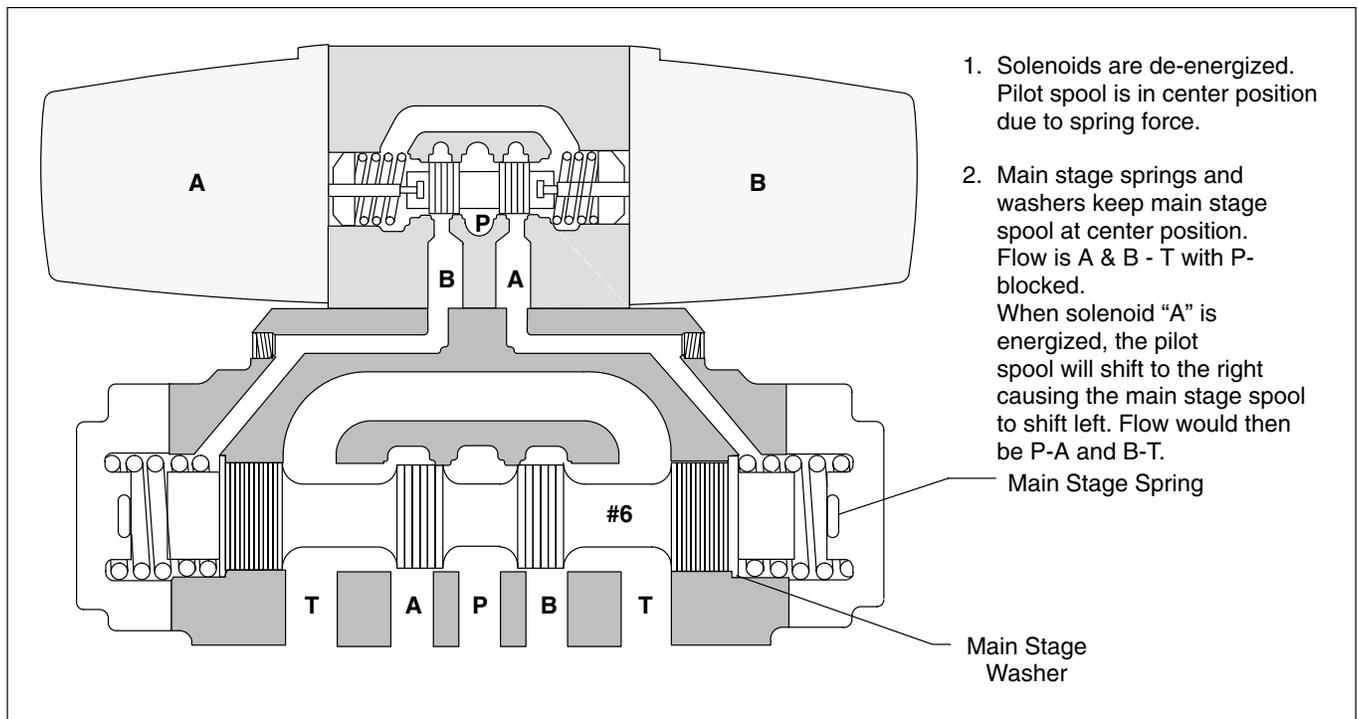

Figure 5. Spring Centered "C" Model
2. **Spring Centered:** A spring and washer arrangement is used on both ends of the main stage spool in the spring centered configuration. If control pressure is removed from a spring centered spool, the valve will go the center position due to spring force. Two configurations of a two-stage spring centered valve can be obtained, a type "B" and a type "C". If one solenoid is used on a spring centered pilot valve, the model code is identified with the letter "B". When two solenoids are used, the model code is identified with the letter "C". Figure 5 illustrates spool positioning of a two-stage spring centered "C" model (i.e. DG5S4-062C-\*\*-51).